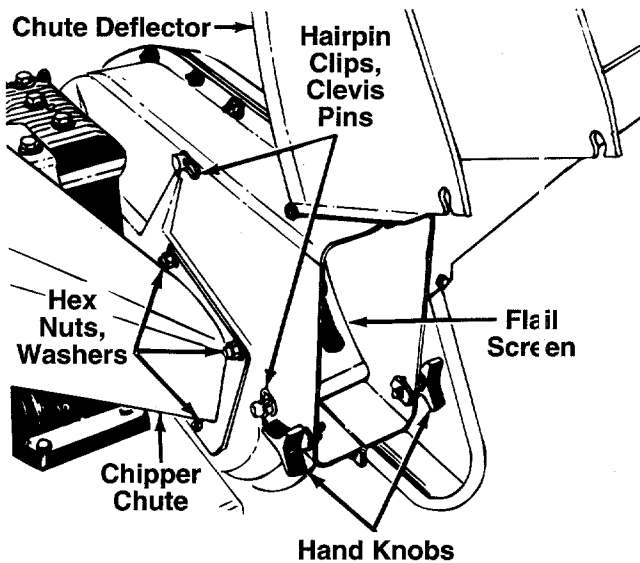

FIGURE 18.
- Remove two hairpin clips from the clevis pins which extend through the housing. Remove the clevis pins. Lift the flail screen from inside the housing. See figure 18.
NOTE: Be certain to reassemble the flail screen with the curved side down as shown in figure 18.
- Remove the chipper chute by removing three hex nuts and washers. A 1/2" wrench is required. See figure 18.
Make certain blades are reassembled with the sharp edge facing the direction shown in figure 18 (sharp edge is assembled toward the slotted opening in the impeller assembly). Torque bolts and nuts to 250-350 inch pounds.